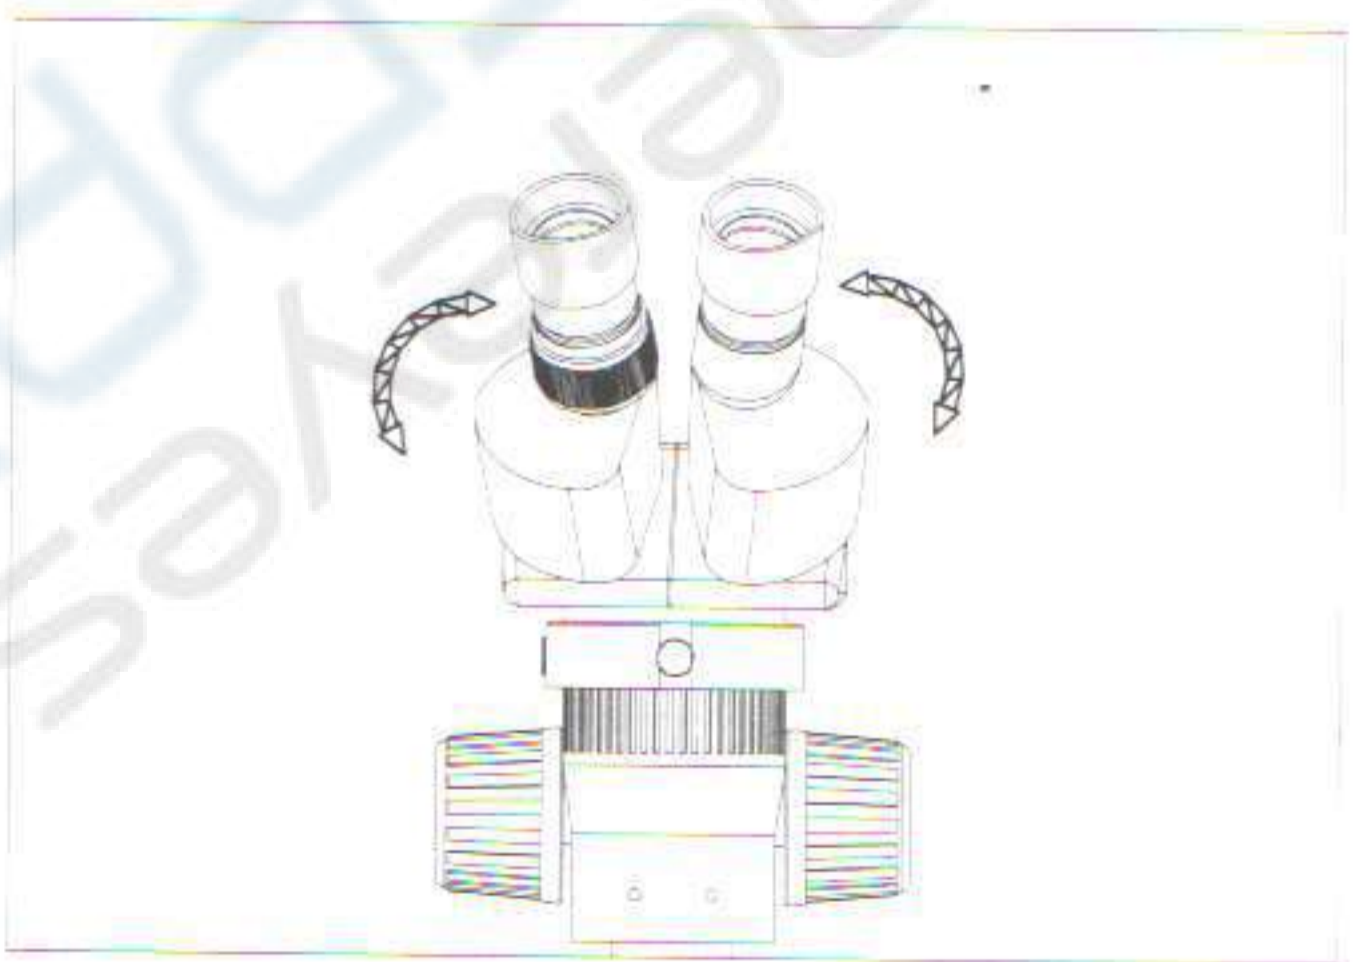

Fig. 4
- Adjust the prism housing along the direction of arrow of the Fig. 4 till the observation is comfortable.